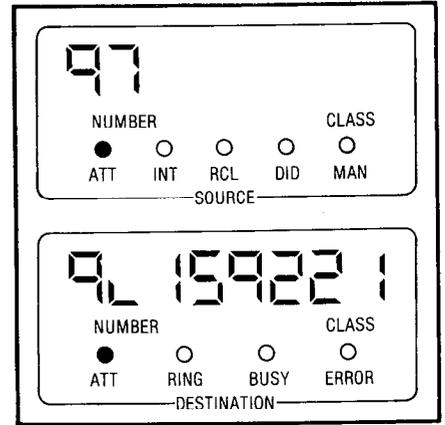

Fig. 505-1
- Destination display shows digits entered (most recent the right (Fig. 505-1), ATT lamp lit